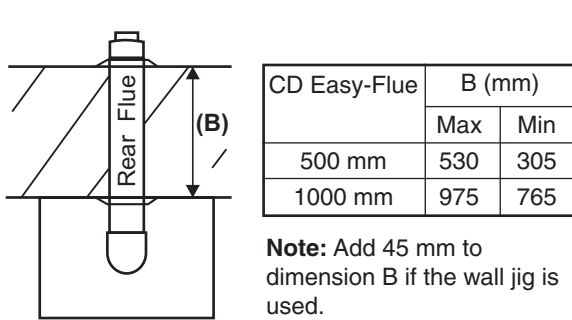

Fig. 4.5
#### 4.6 FIT THE FLUE - Figs. 4.5 and 4.6
- 1. When the flue length required is more than the maximum stated in Section 4.6, paragraph 1, refer to the table below and Figs 4.5 and 4.6.